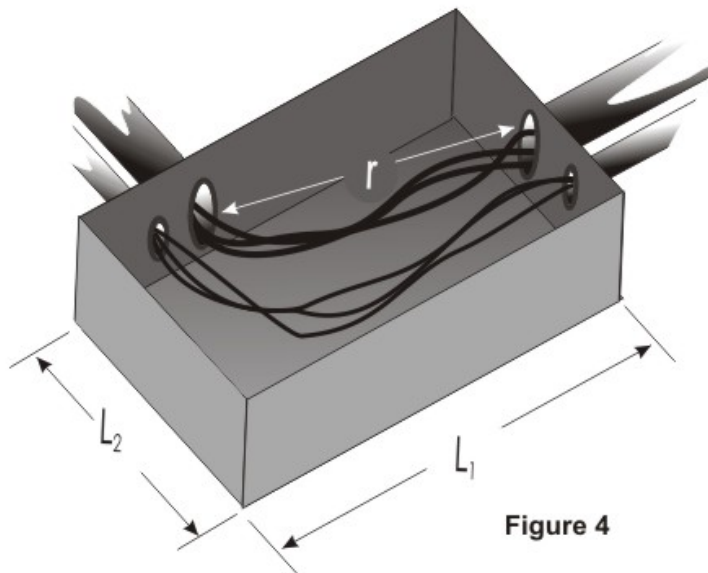

Figure 4
- Figure 4 has a 63 mm conduit with four 250 kcmil T90 Nylon conductors and a 35 mm conduit with four 3 - AWG T90 Nylon conductors.